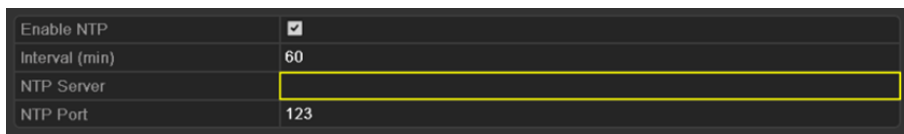

Figure 11-9 NTP Settings Interface
Step 2 Select the **NTP** tab to enter the NTP Settings interface, as shown in Figure 11-9.